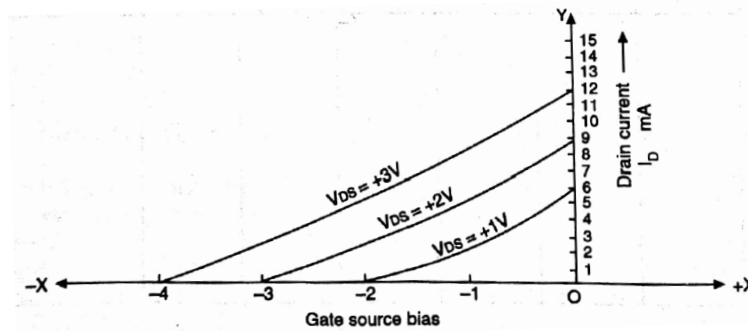

Fig. 9: An Indicative Curve of Transfer Characteristics of a FET
7. For transfer characteristics draw graphs between Drain current  $I_D$  taken along the Y-axis and  $V_{GS}$  Gate Source bias along X-axis as shown in Figure 9.